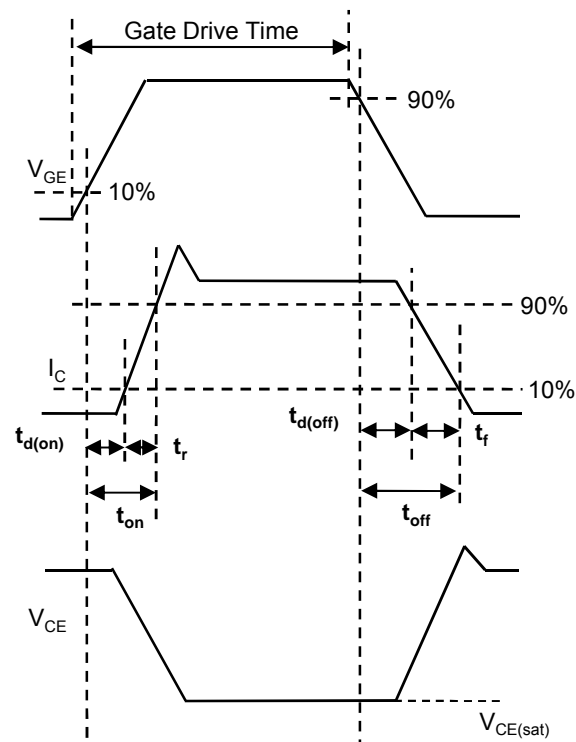

Fig.16 Inductive Load Switching Waveform
*1) Assurance items according to our measurement definition (Fig.16)